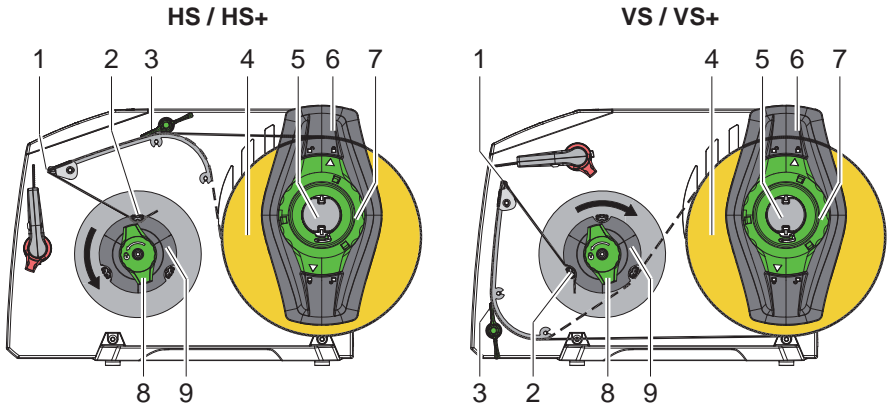

Fig. 6 Loading labels
1. Turn ring (7) counterclockwise, so that the arrows points to the symbol , and thus release the margin stop (6) from the roll retainer (5).
2. Load label roll (4) on the roll retainer (5) in such a way that the labels are visible from above at HS 120 / from below at VS 120.
3. Re-mount the margin stop (6) and push against the label roll as far as possible.
4. Turn ring (7) clockwise, so that the arrow points to the symbol , and thus fix the margin stop (6) on the roll retainer (5).
5. Swing away the brake (3).
7. Guide label strip over the dispense plate (1) to the rewriter (9) as shown in figure 6. The broken line shows the path for inside wound labels.
8. Hold rewriter (9) firmly and turn knob (8) clockwise until it stops.
9. Push liner under a bracket (2) of the rewriter (9) and turn knob (8) counterclockwise until it stops.